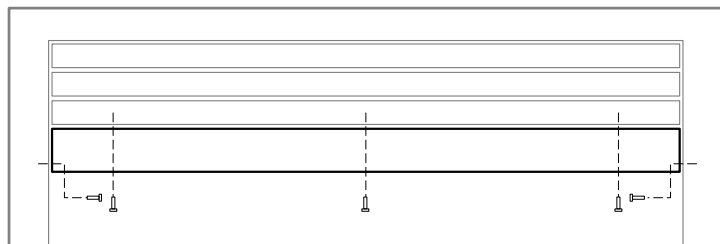

Figure 15 - Installing Canopy
1. Remove the three (3) screws from the top front frame assembly. Also remove the two (2) screws on the side frames. See *Figure 15*.